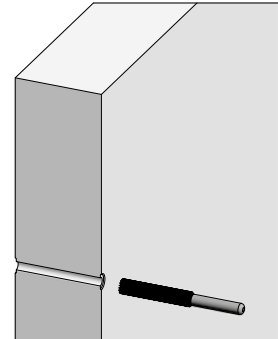

Fig. 72.2
1. Clean the tie hole. It must be free of contamination and grease and have a smooth surface (Fig. 72.2).